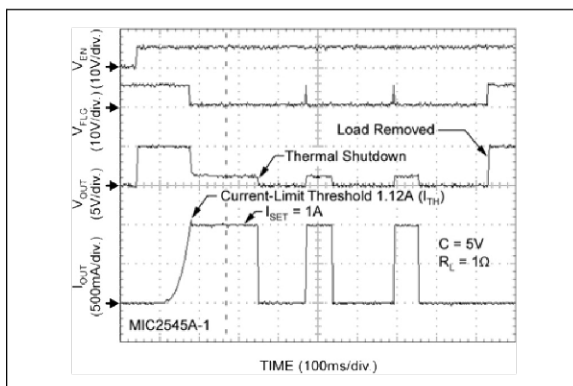

FIGURE 5-3: Current-limit Response.
3. When a load is increased, the output current will proportionally increase up to the current-limit threshold, I_{TH} , as shown in Figure 5-3. The device in this case will supply current slightly higher than the current-limit set point defined by R_{SET} . As the load is increased further the current folds back to I_{LIMIT} .